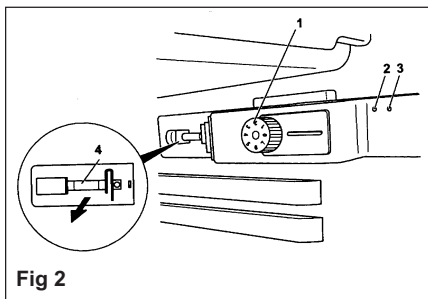

Fig 2
Switch the refrigerator on by turning the temperature control clockwise. See fig 2
- Pull the bulb (see fig 2) out of the sheet metal contacts
The significance of the red LED light (Fig 2, item 3)